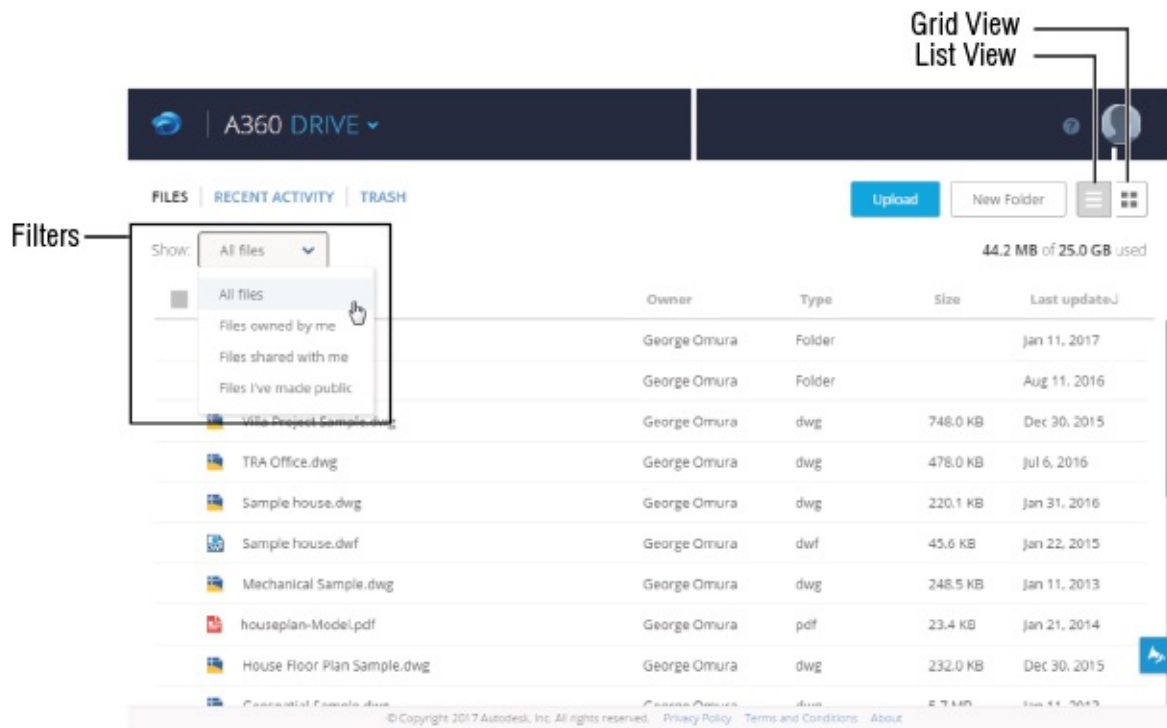

FIGURE 25.13 The A360 Drive page showing several documents
2. Open a file and then click the Sign In dropdown list and select A360. Your default browser opens, and the A360 Drive site appears (see Figure 25.13).
You can switch between a thumbnail grid view and a list view by using the icons in the upper-right corner of the page just left of the New Folder option (see Figure 25.13). You can filter the display of files using the dropdown menu to the left of the window. Upload files to A360 Drive using the Upload button, and create new folders using the New Folder button.